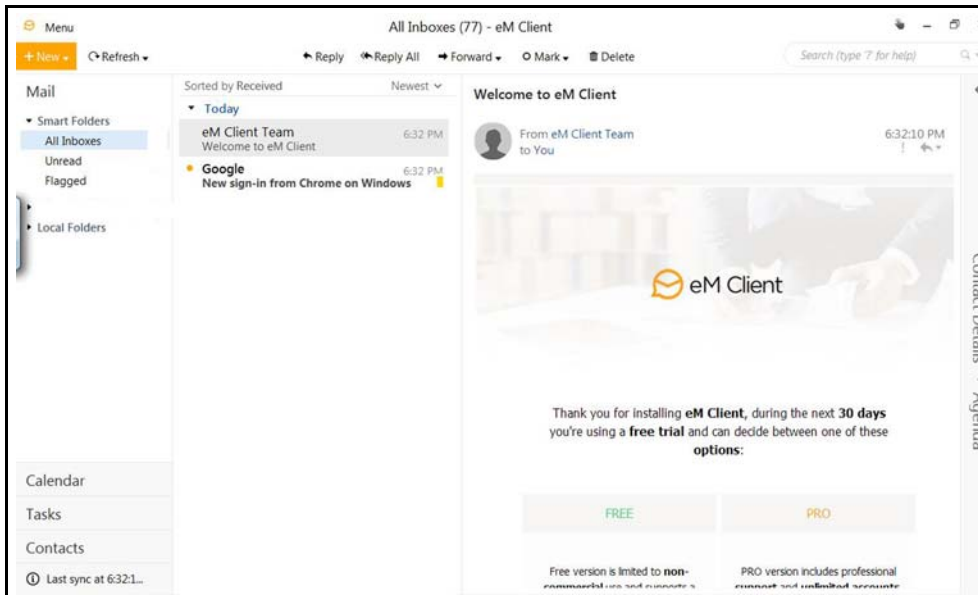

Figure 1-14
7. Once the client has successfully linked to your address, you can begin using the new e-mail client software on the diagnostic tool (Figure 1-14).